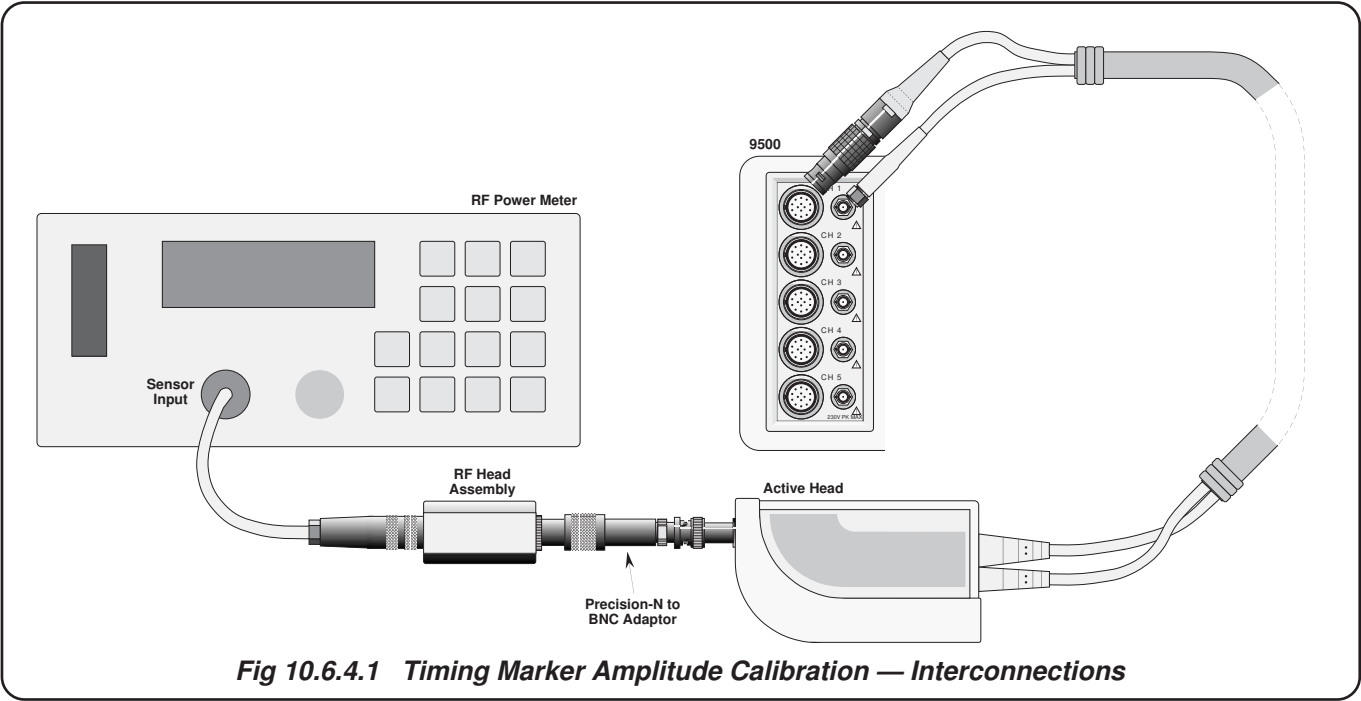

Fig 10.6.4.1 Timing Marker Amplitude Calibration — Interconnections
- 1. Ensure that the 9500B is connected to the Power Meter as shown in figure 10.6.4.1, satisfies the equipment requirements in para 10.6.2.2, and that both instruments are powered on and warmed up.